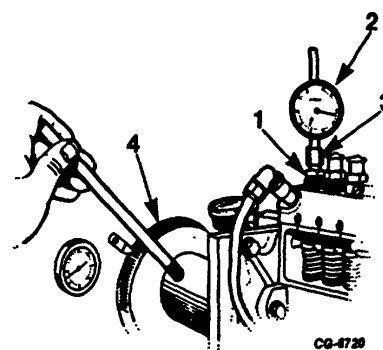

Figure 6. Establishing Initial Plunger Lift (No. 1 Pumping Element)
b. Install dial indicator holder and SE-2121 indicator with 4.45 cm (1-3/4") stem extension in No. 1 bore (Figure 6). Extension should bear on top of plunger.